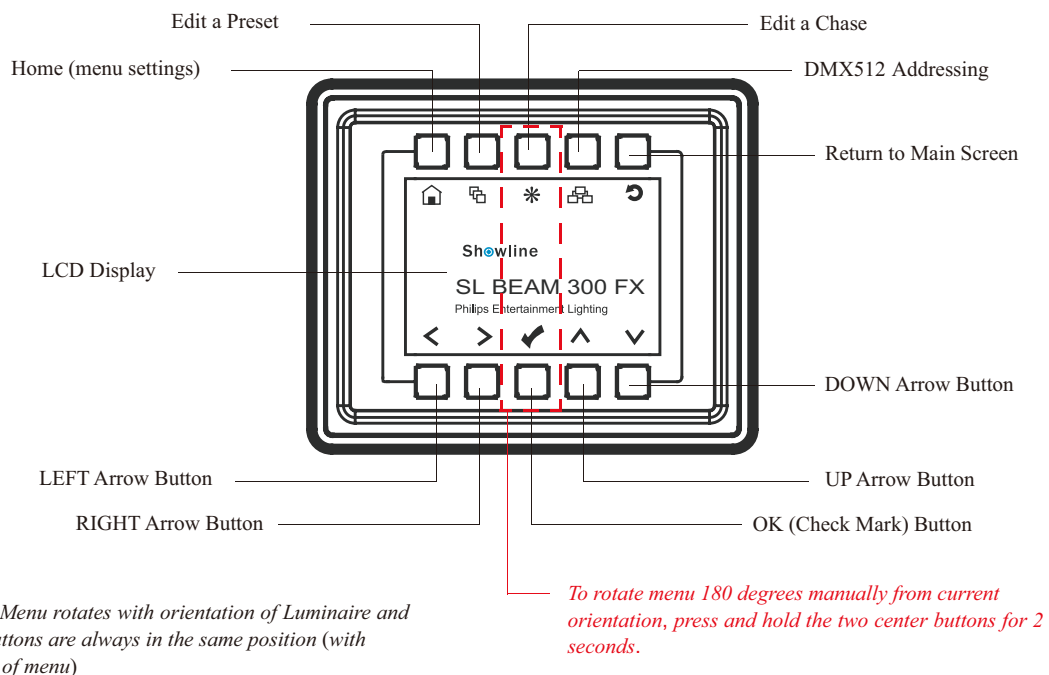

Figure 7: LCD Display and Menu System
Step 2. Press the desired button (as shown in **Figure 7**) to access menu categories.